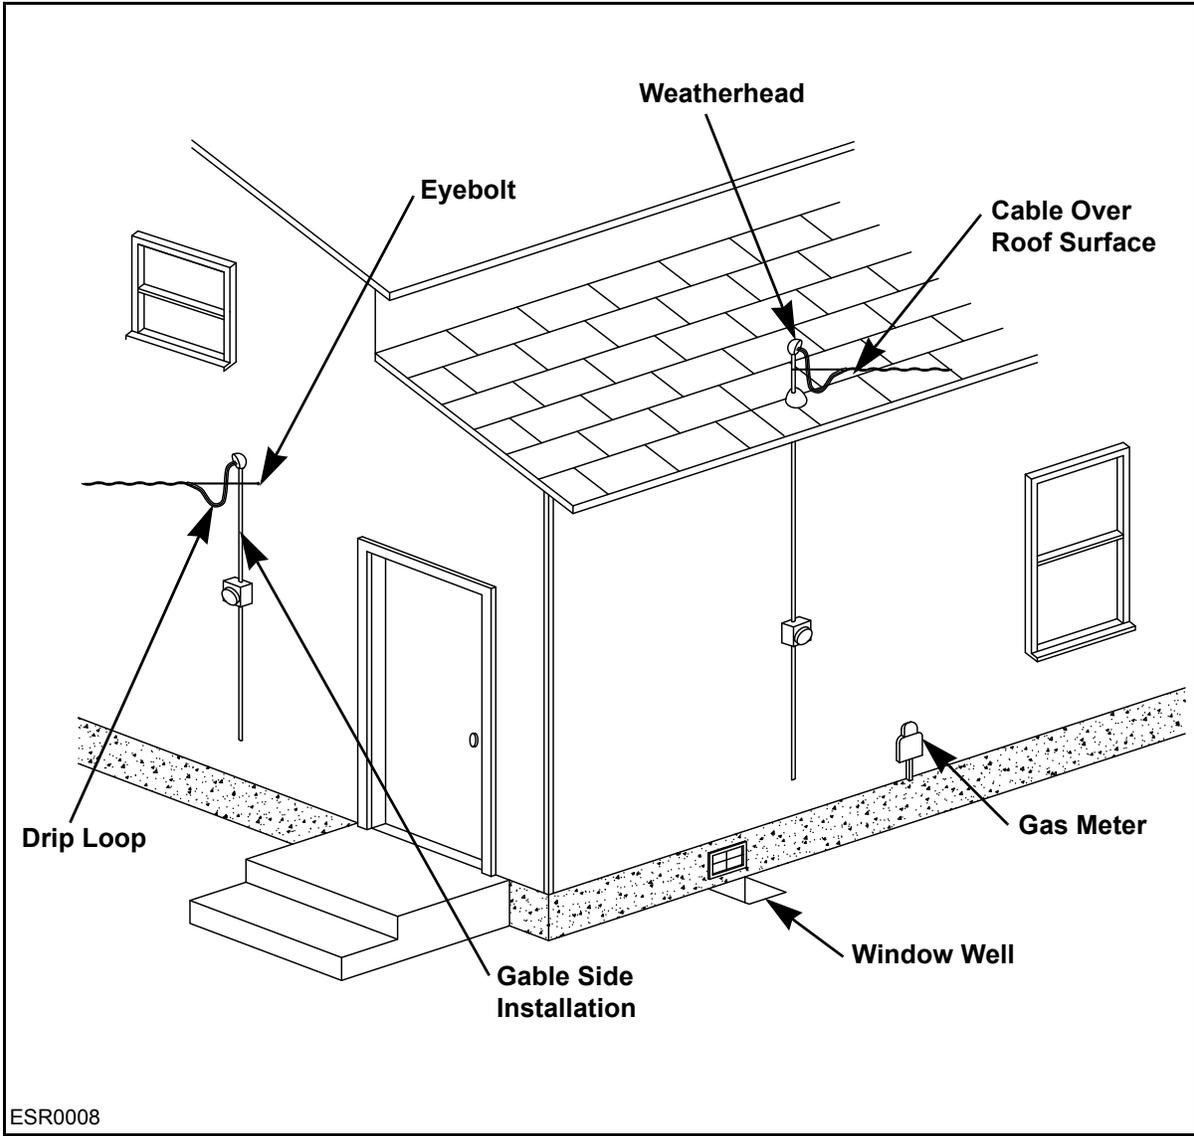
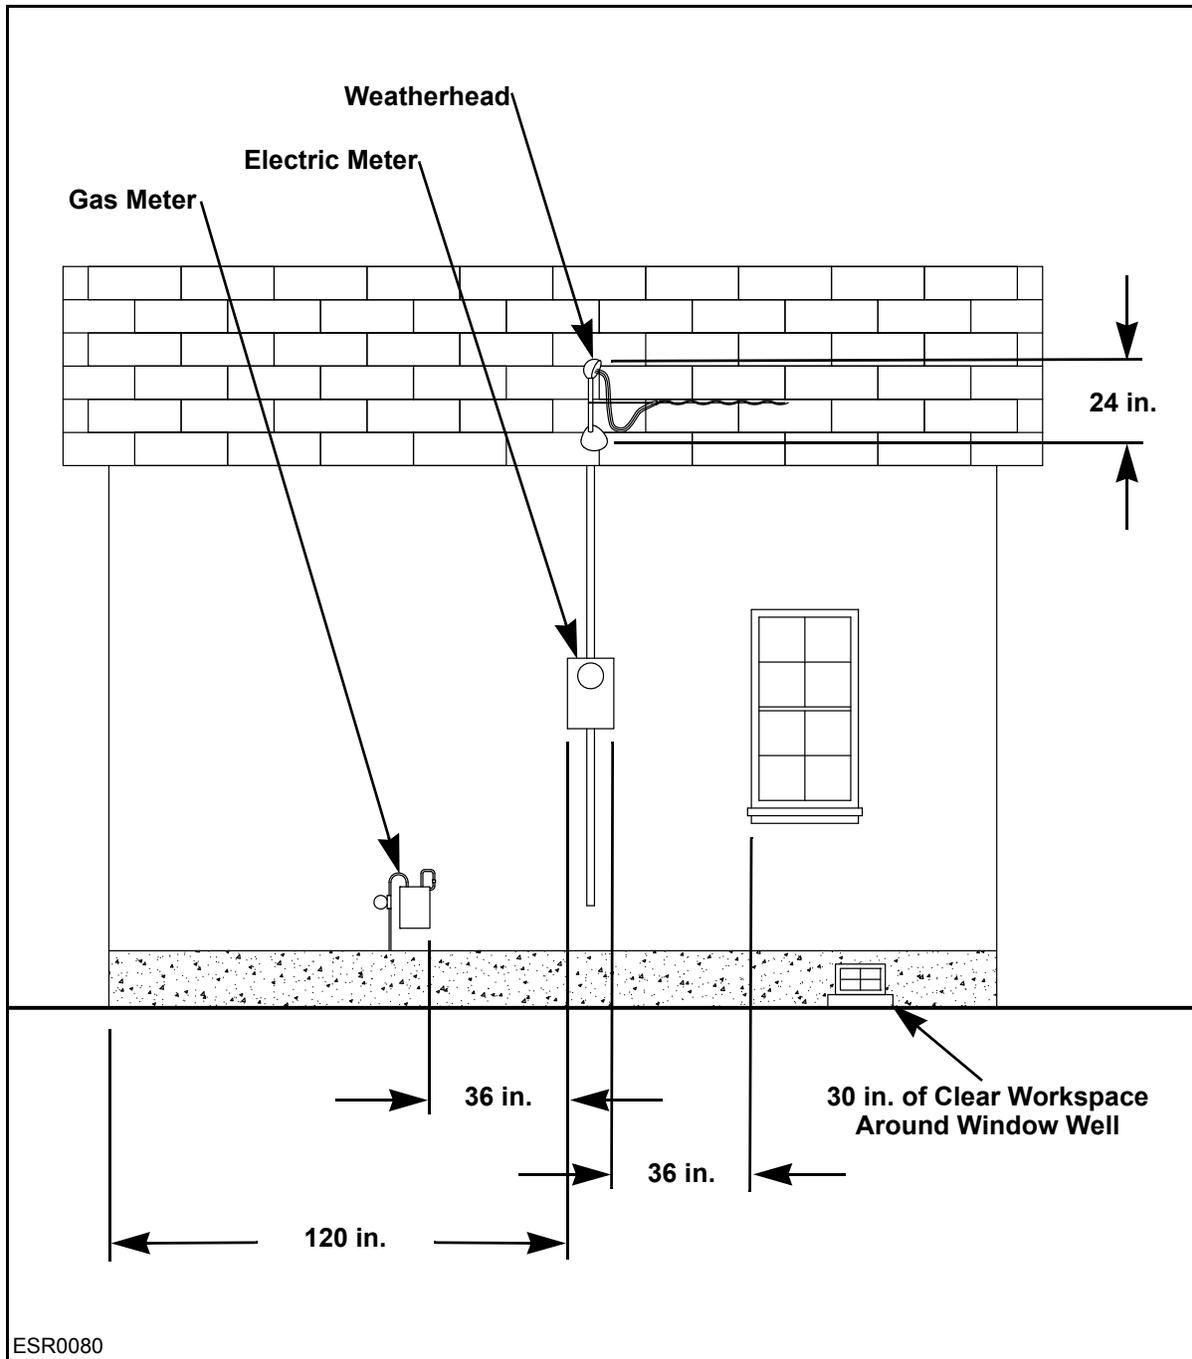

Figure 5-4: Metering Equipment for Overhead Service
Figure 5-5: Residential Meter Clearances for Overhead Service
Never install a meter over a window well, over steps in a stairway, or in another unsafe or inconvenient location. Keep shrubs and plants from obstructing access to metering equipment. See **Figure 5-4**.
- The maximum distance between the meter base and the corner of the house closest to a PGE line is 10 feet (120 inches). See **Figure 5-5**.
- The minimum distance between a gas meter and the PGE meter is 36 inches. See **Figure 5-5**.
- To maintain customer privacy, avoid locating a meter within 36 inches of a window or door with a view of living spaces. See **Figure 5-5**.
- A minimum of 30 inches of clear workspace is required from the edge of a window well. See **Figure 5-5**.
- The point of attachment for the cable must be a 3/8-inch eyebolt that is within 24 inches of the weatherhead. See **Figure 5-4** and **Figure 5-5**.
NOTE: A service drop installed on the gable side of a residence requires prior PGE approval. See **Figure 5-4**.